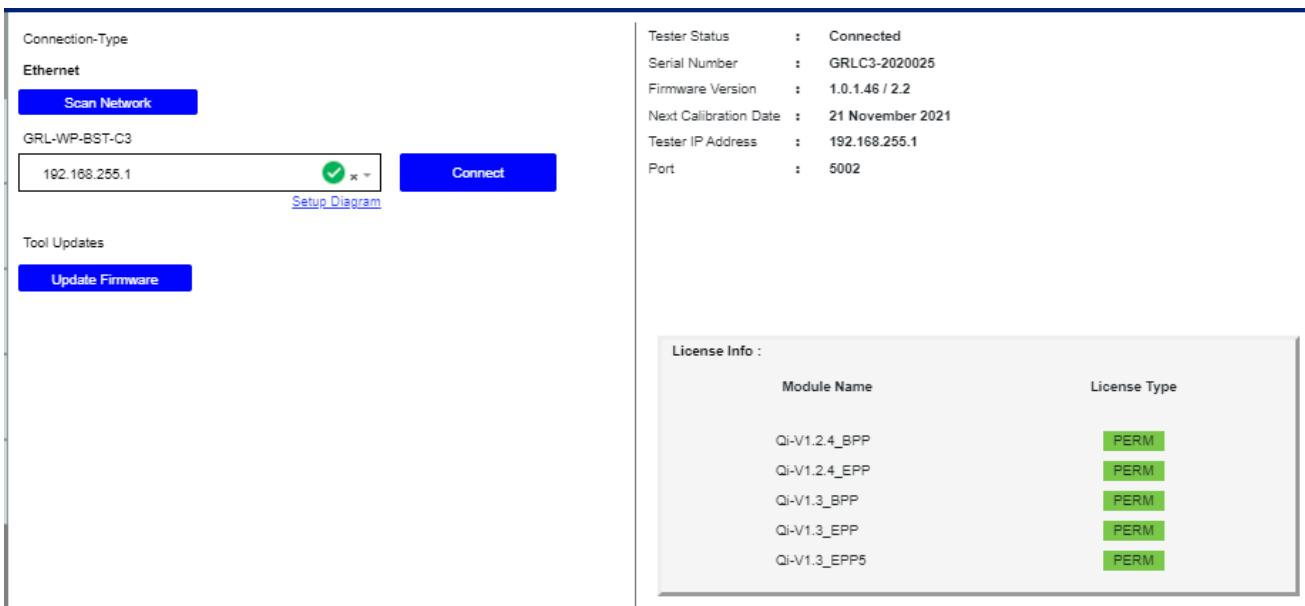

FIGURE 7.8: UPDATE GRL-C3 FIRMWARE- #5
6. The GRL-C3 tester hardware and Browser App should now be connected and ready for use with updated firmware (Figure 7.8 below).